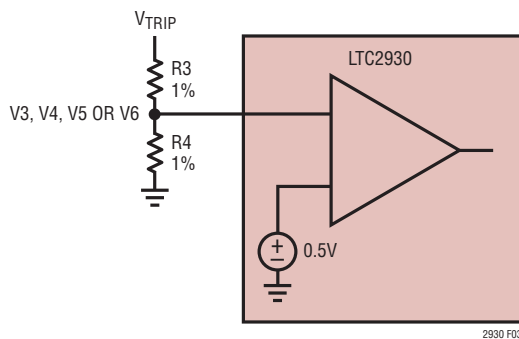

Figure 3. Setting the Positive Adjustable Trip Point
The reference inputs on the V3 and/or V4 comparators are set to 0.5V when the positive adjustable modes are selected (Figure 3). The reference inputs on the V5 and V6 comparators are always set to 0.5V. The tap point on an external resistive divider, connected between the positive voltage being sensed and ground, is connected to the high impedance, adjustable inputs (V3, V4, V5, V6). Calculate the trip voltage from:
*See Figure 3.